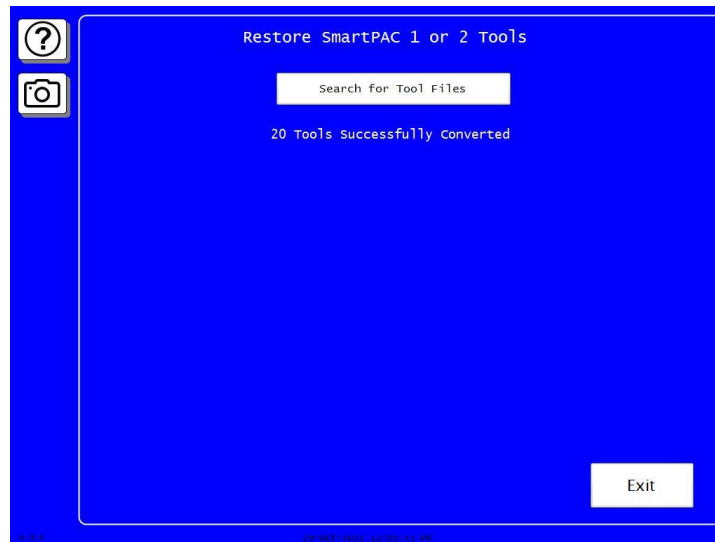

Figure 17. Restore SmartPAC 1 or 2 Tools Menu – Tools Successfully Converted
5. When the restore is complete, the following message displays: “## Tools Successfully Converted” (Shown in Figure 17).